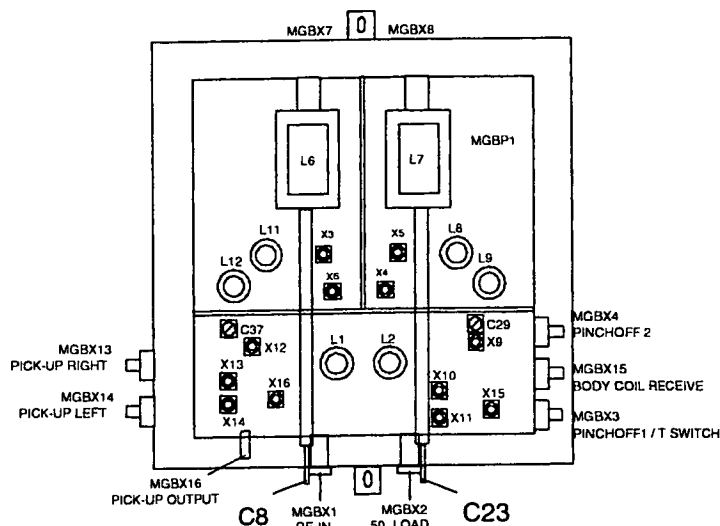

Figure 27 Hybrid Box
5. Adjust the offset frequency to a minimum value. The offset can be changed with trimmer C37. Trimmer C37 can be reached via an opening in the top plate of the hybrid box box. See also Figure 27.